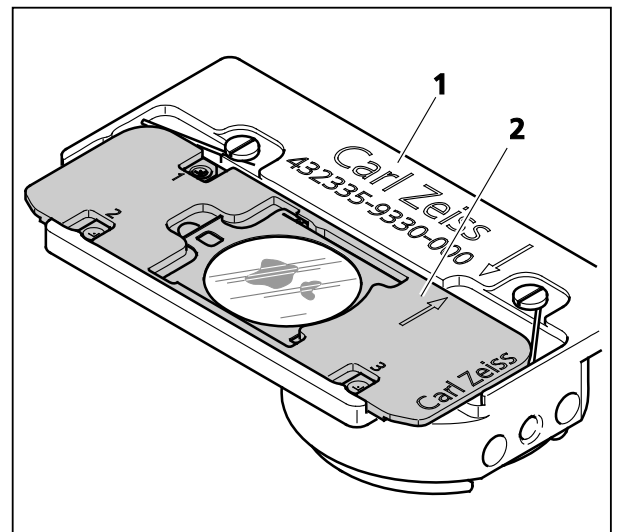

Fig. 185 Inserting the sample holder in the SEM adapter
- To use the specimen in a scanning electron microscope, remove the sample holder (Fig. 185/2) from the mounting frame of the microscope stage and insert it in the special SEM adapter (Fig. 185/1).